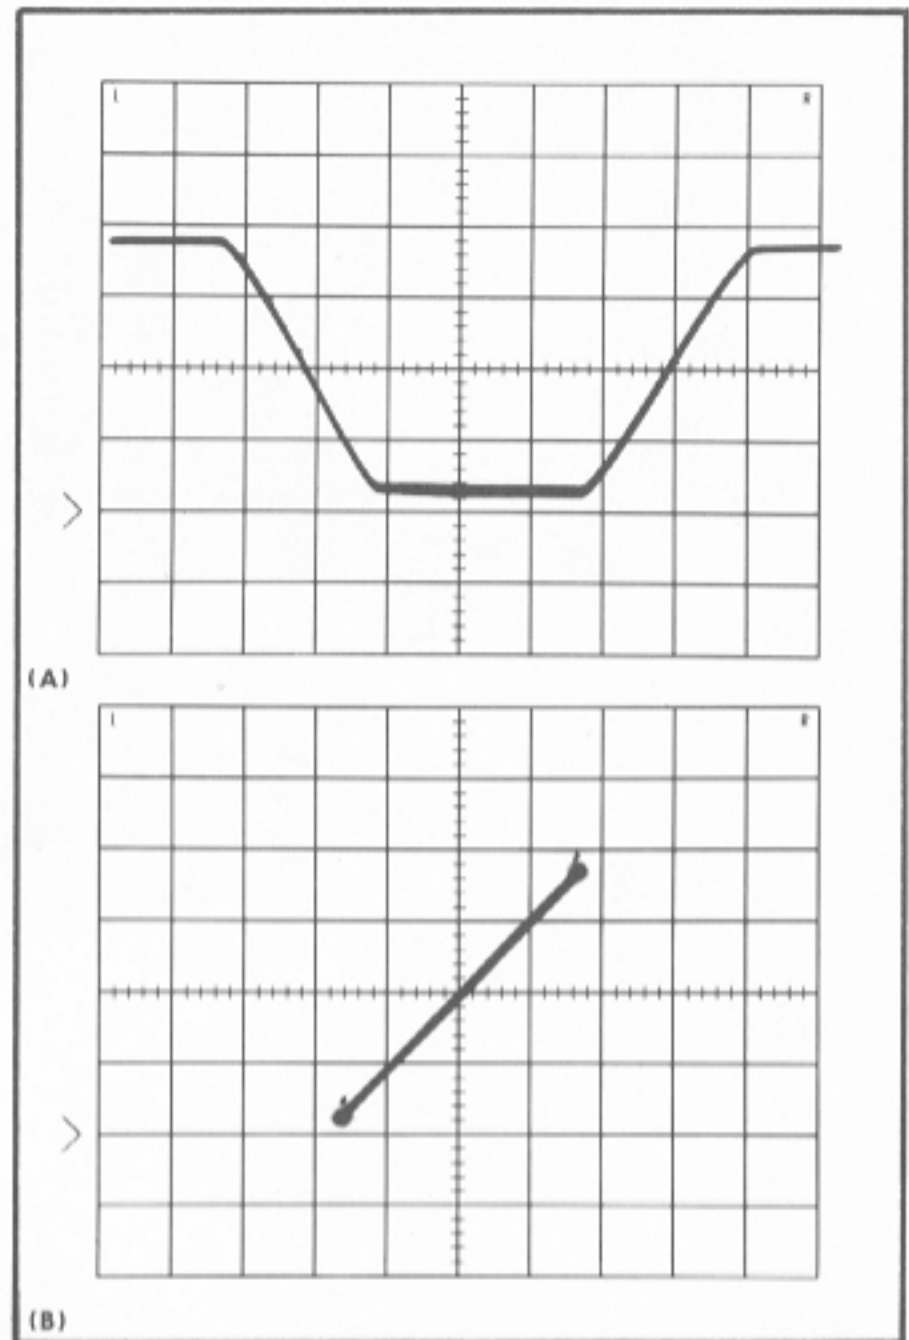

Fig. 6-32. Typical CRT display showing (A) traces coincident in Dual Trace Mode, (B) Trace in A Vert-B Horiz Mode.
- f. Center the waveforms vertically on the Type 661 CRT, using the A and B DC OFFSET controls. Make a note of the amplitude of the display. See Fig. 6-32(A).
- g. Switch the Type 4S2A MODE switch to A VERT-B HORIZ. The display should be a diagonal line of equal vertical and horizontal amplitude and equal to the vertical deflection noted in step f. See Fig. 6-32(B).